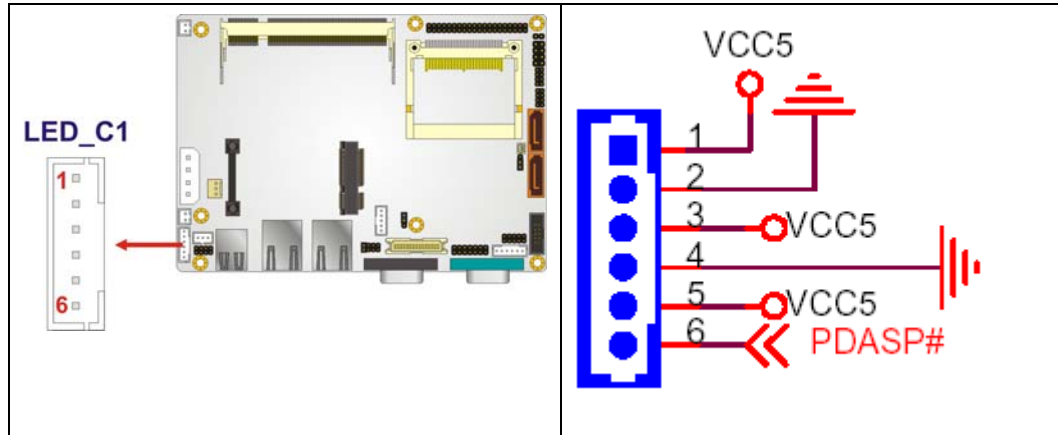

Figure 4-10: LED Connector Locations
- CN Location:** See **Figure 4-10**